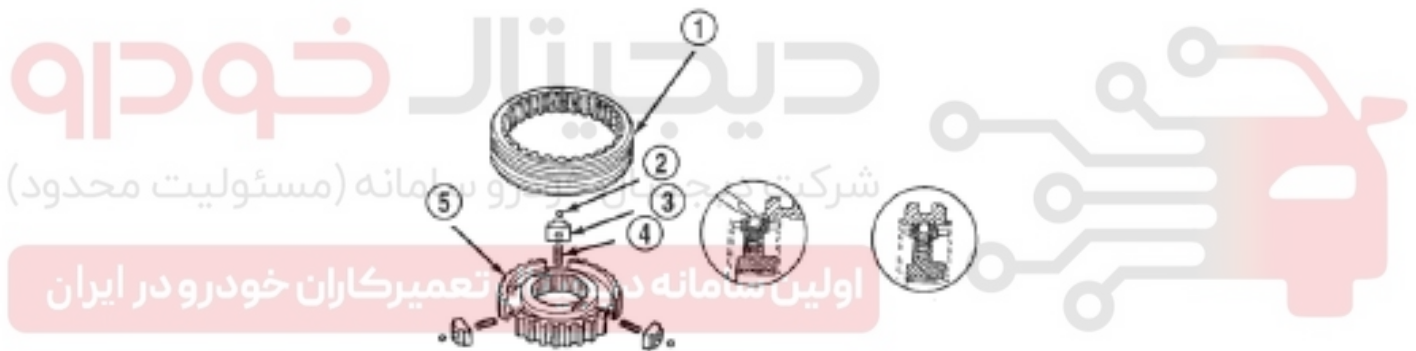

Figure 3-159 Assembly of synchronizer
(1) Assemble synchronizer gear hub on the proper fixture (input shaft) with U side upward (Figure 3-159).